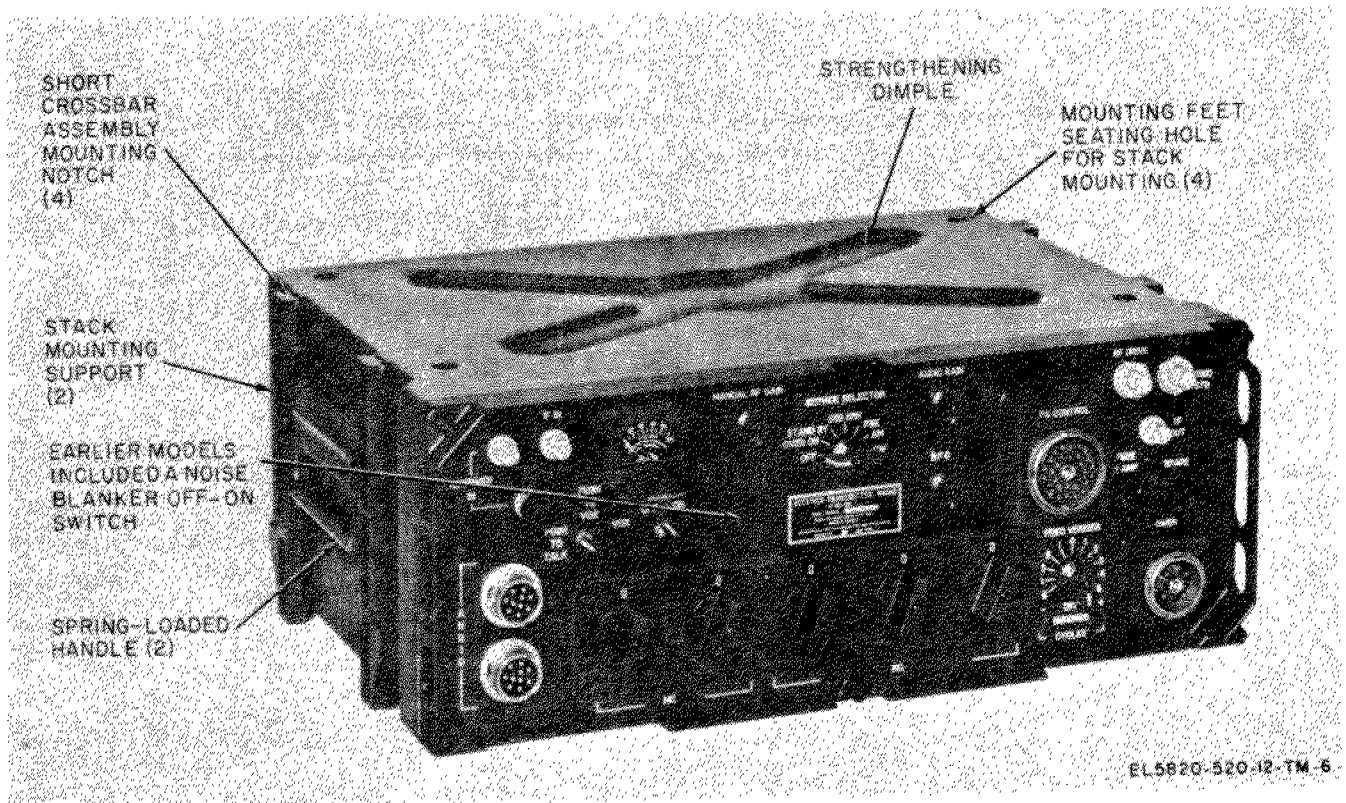

Figure 1-5. Receiver-Transmitter, Radio RT-662/GRC.
a. The RT-662/GRC (fig. 1-5) is a self-contained, modular-constructed, combination receiver and low-level transmitter consisting of one chassis housed in a moistureproof case. Eleven plug-in modules are securely mounted on the top of the chassis and six subassemblies and a front panel are secured to the chassis. All operating controls